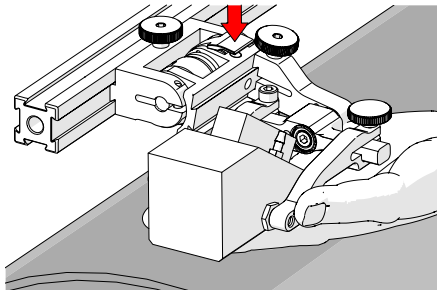

Fig. 160 - Lift and press latch button
3. Lift the probe slightly and press the latch button (Fig. 160) to apply spring pressure to the wedge.